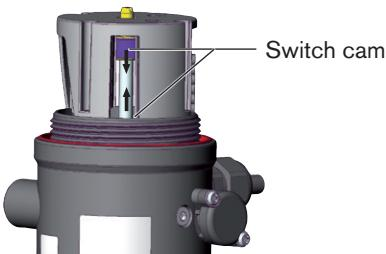

Fig. 27: Adjustment of the micro switch and the proximity switches
- If required, the switch points can still be finely adjusted: Using a screwdriver, push switch cams towards the middle (see "Fig. 27").